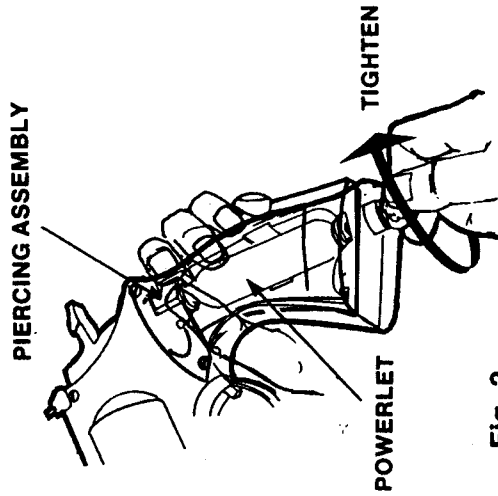

Fig. 2.
- A. Place new Powerlet, with small neck into Piercing Assembly (Fig. 2).